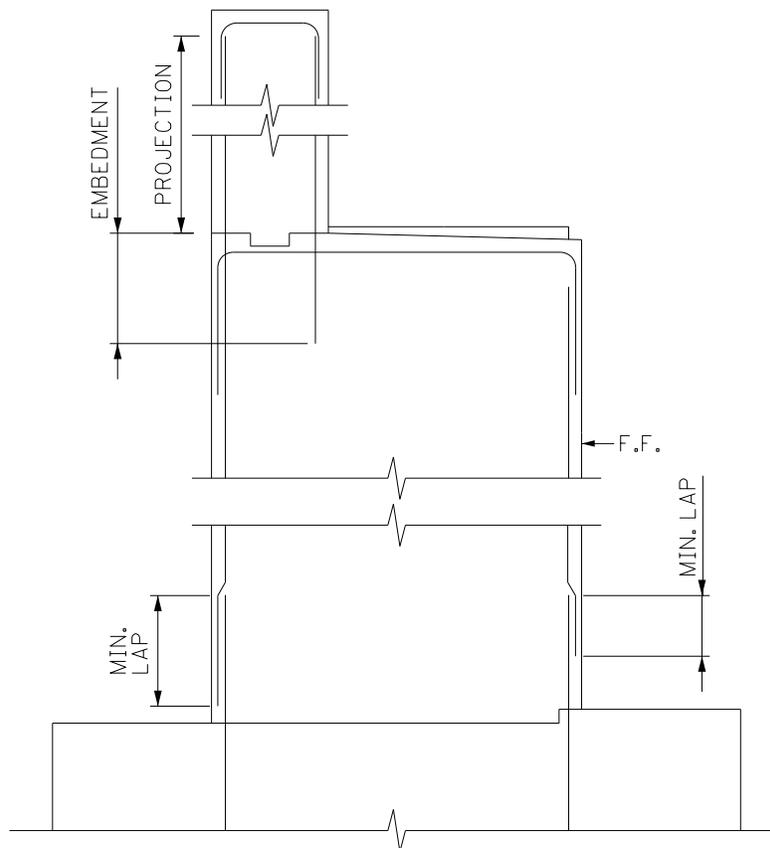

Figure 1
3. When a bar extends from one concrete pour to the next, dimension the minimum lap length, the embedment length, or the projection length. (See Figure 1.) If the bar is bent, show the minimum lap length. If the bar is straight, show the embedment or projection length.